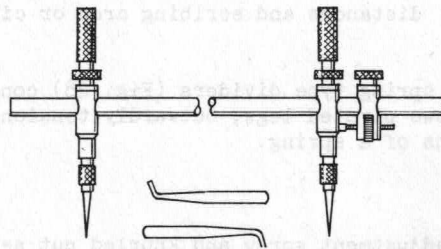

FIG. 32. TRAMMELS.
5.11 TRAMMELS. Large radius arcs or circles require the use of trammels. These are essentially a form of dividers and consist of a metal beam, upon which two legs can be positioned as required. (See Fig. 32).